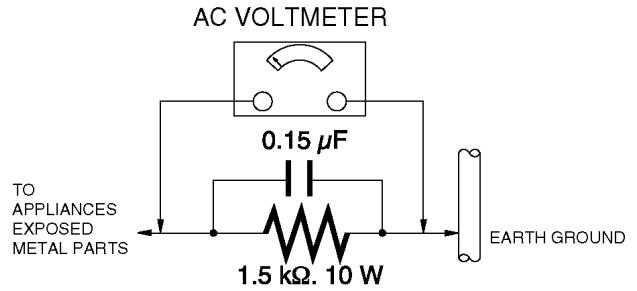

Figure. 1
| 1.3. Leakage Current Hot Check (See Figure 1.) .....   | 4         |
## 1.3. Leakage Current Hot Check (See Figure 1.)
2. Connect a  $1.5\text{ k}\Omega$ , 10 W resistor, in parallel with a  $0.15\text{ }\mu\text{F}$  capacitor, between each exposed metallic part on the set and a good earth ground, as shown in Figure 1.